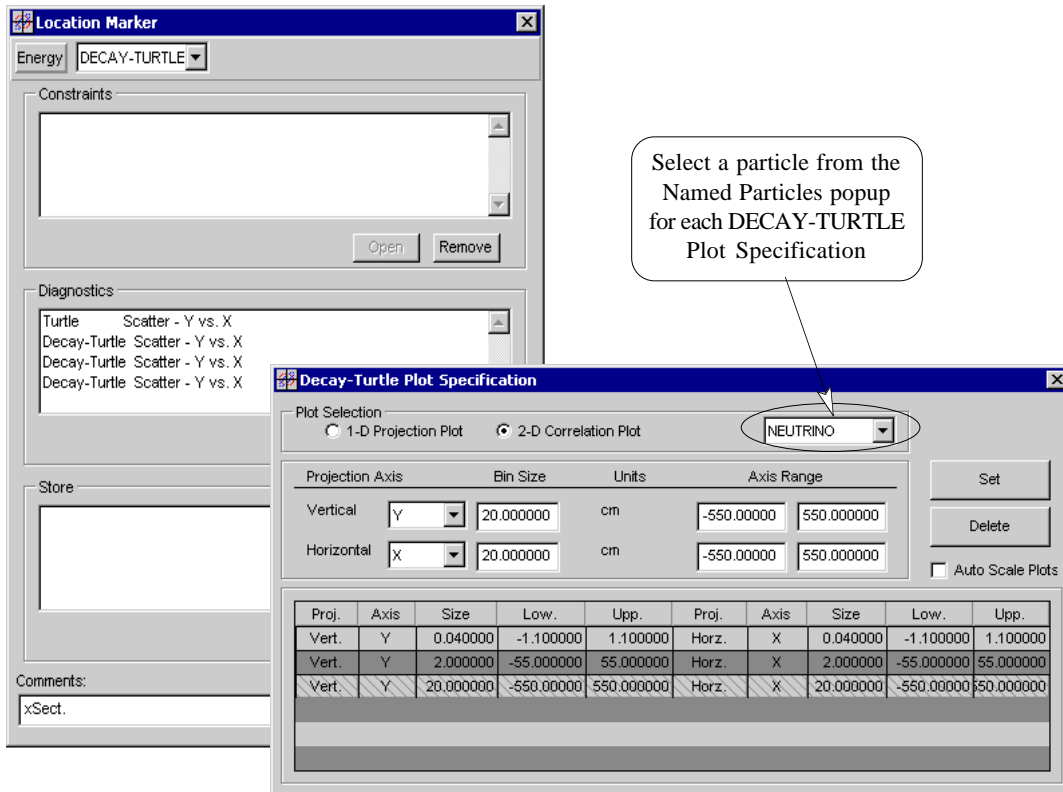

Figure 31. DECAY-TURTLE Plot Specifications Window.
When the Application Context is set for DECAY-TURTLE in the Marker Piece Window, the Open Button in the Diagnostics panel will open the DECAY-TURTLE Plot Specification Window. Figure 31 illustrates an example of a Marker with one (1) TURTLE plot specification and three (3) DECAY-TURTLE plot specifications.
Plot Specifications for DECAY-TURTLE are similar to those of TURTLE, described in the previous subsection. However, DECAY-TURTLE requires a particle to be selected for each plot specification. Particles are selected for a particular plot using the Symbolic Parameter Name assigned with the Special (SPEC) Piece. (Refer to the Special Piece Section in the Beamline Elements Chapter.) A pop up control is provided in the DECAY-TURTLE Plot Specifications Window (Figure 31) to chose from the named particles.